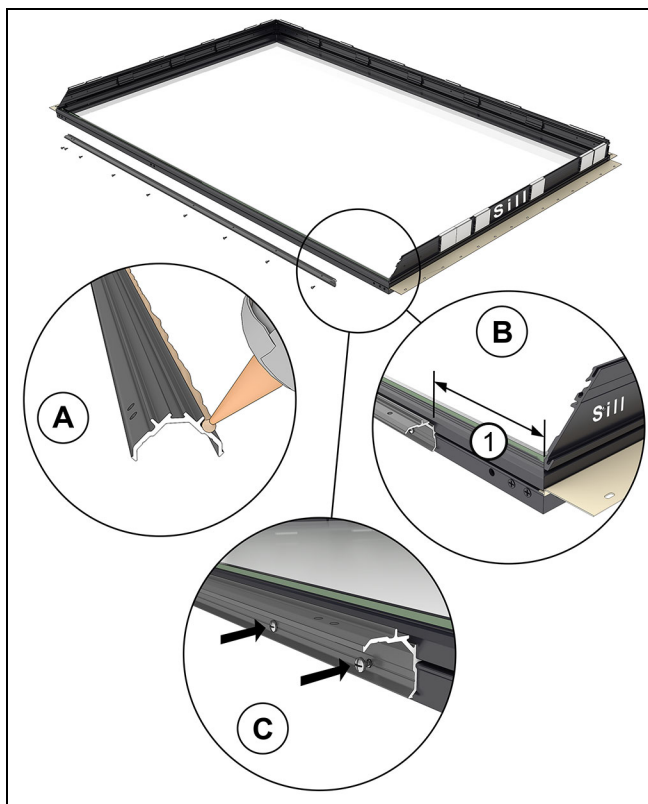

Figure 34 Interior side up shown
4. Install the corner bracket on the left hand window. Add a 1/8" (3) bead of sealant along the raised lip of the corner bracket. See Figure 34. Measure up 5 5/8" (143) from the sill. Place the bracket so that the lip fits into the kerf on the window. Fasten with 1/2" self drilling screws provided. Be careful not to over-torque the screws.